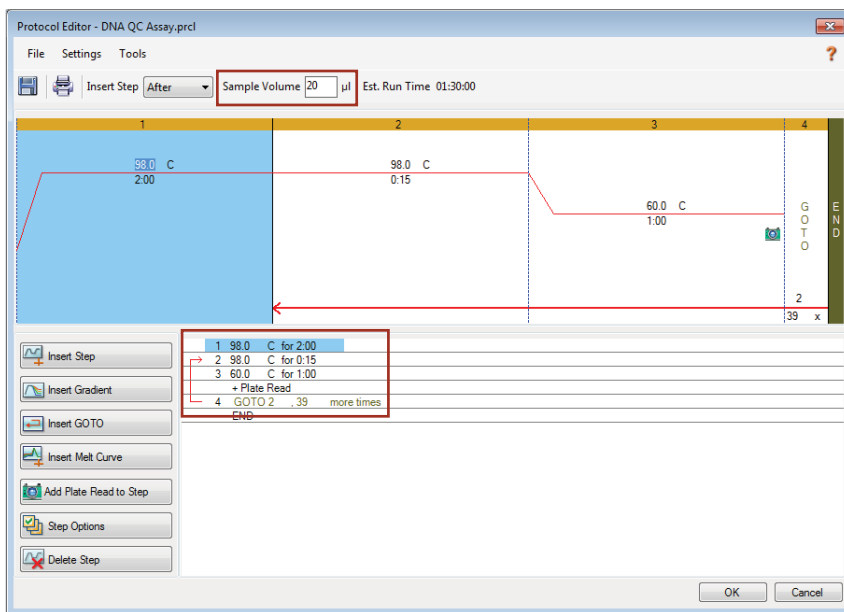

Figure 1. The Protocol Editor—New screen.
- a. Enter in the cycling information to match the image shown in Figure 1: